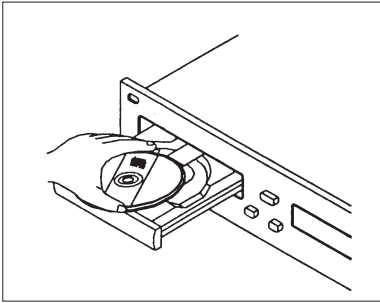
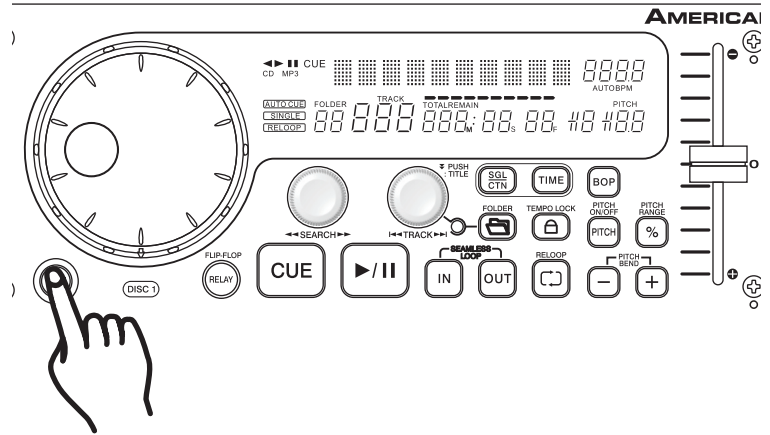

Figure 6: When loading a disc always hold the disc by its edges and load the disc label side up.
Figure 7: Hold down the Eject Button to remove a disc.
The MCD-710™ can only play 3 and 5 inch CDs. Odd shaped, and oval CDs are not compatible. When loading a CD into the transport tray, always hold the disc by its edge (see Figure 6). Load the disc label side up and place it in the disc tray. Never touch the signal surface (the glossy side). To remove a disc from the tray press the *EJECT BUTTON* (21), see Figure 7.